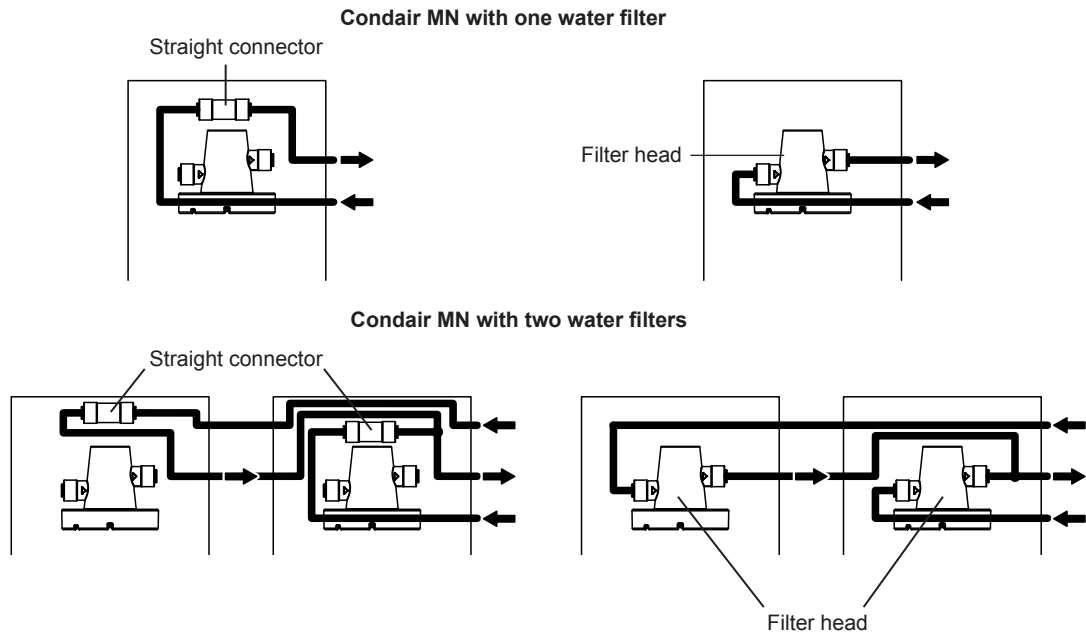

Fig. 71: Connect the inlet and outlet hoses to the filter head(s)
- Remove the straight connector(s) to which the inlet and outlet hose(s) are connected in the housing(s) of the water filter(s) and reconnect the hose(s) to the filter head(s) (see Fig. 71).